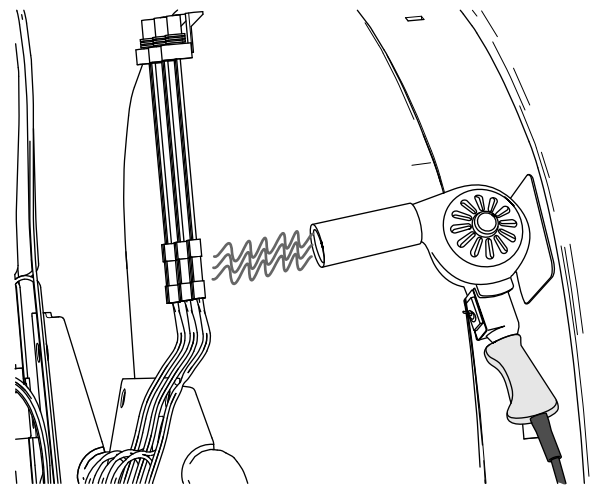

Figure 36
- Use a heat gun to shrink the insulating sleeves of the 3 butt-splice connectors (Figure 36).